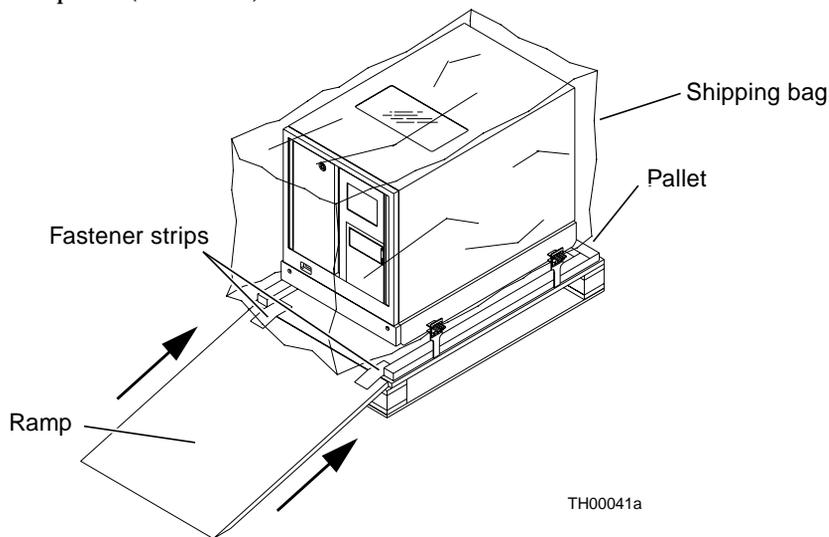

FIGURE B-5 Rolling the Stand-Alone Library Onto the Pallet
- For the stand-alone model, roll the library up the ramp and into the bag on the pallet (FIGURE B-5).